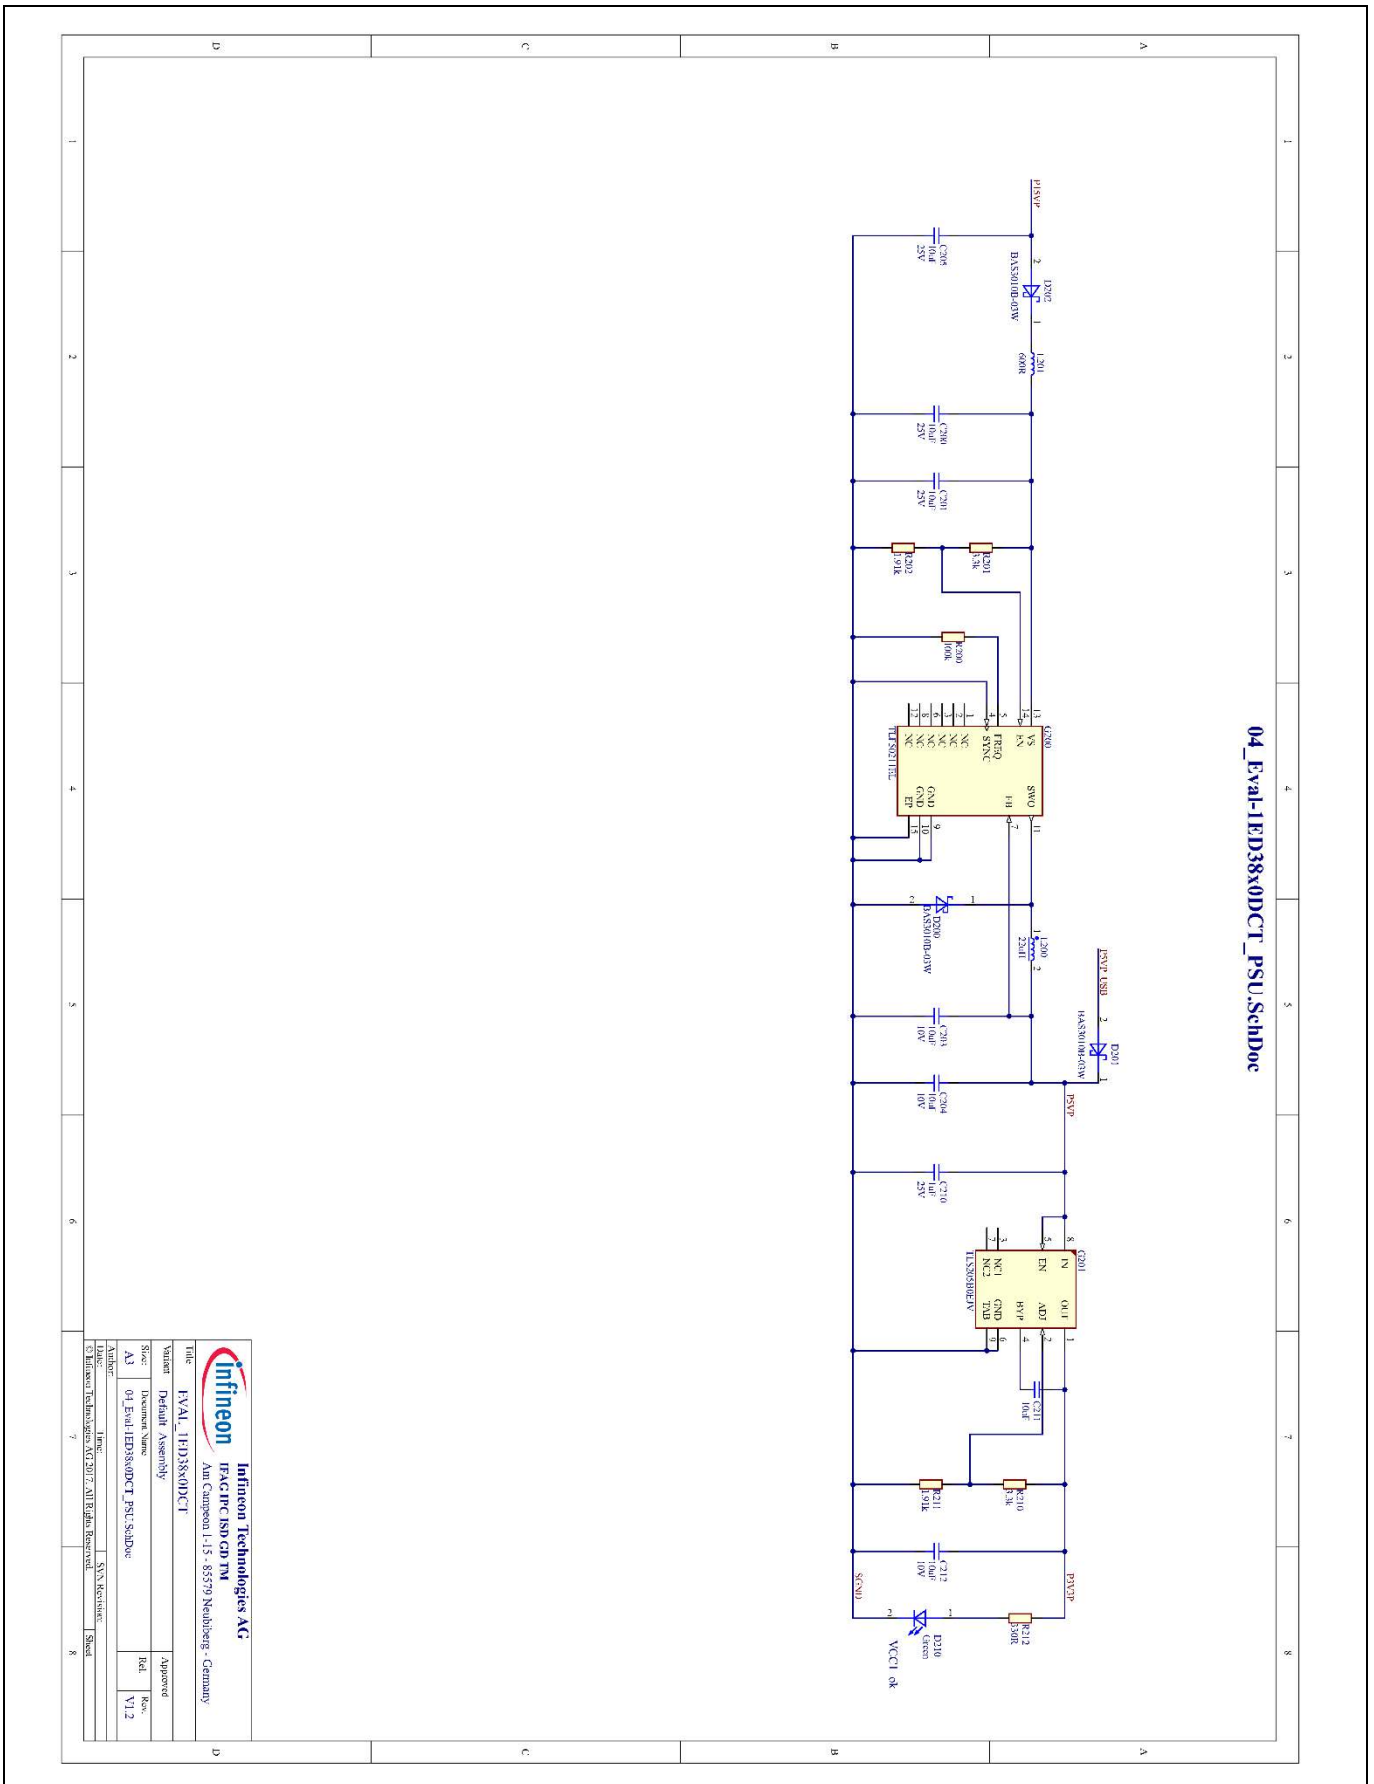

Figure 12 Schematic of power supply section
- Power supply section (Figure 12)